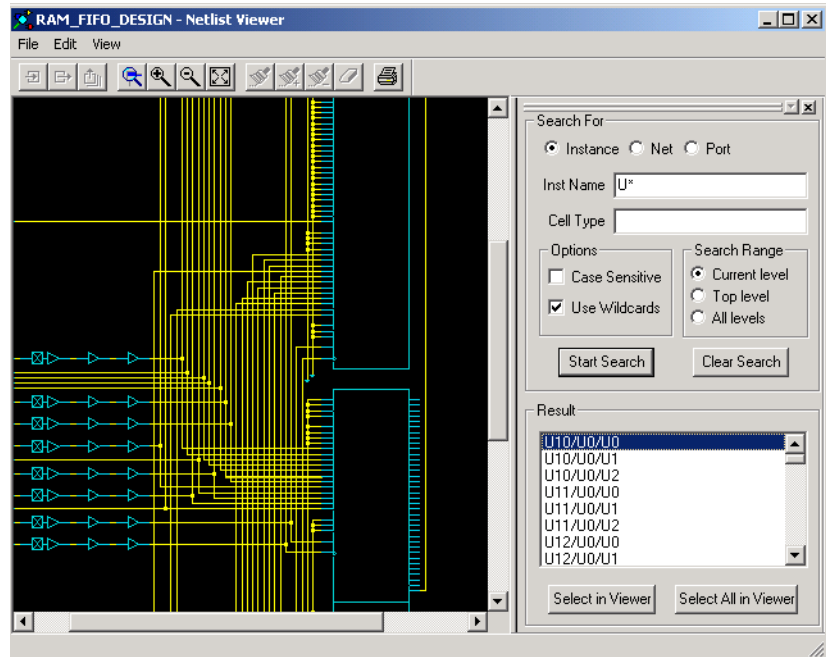

Figure 2-10. Searching
1. **From the View menu, click *Search Tool*.** The Search Window opens, as shown in Figure 2-10.